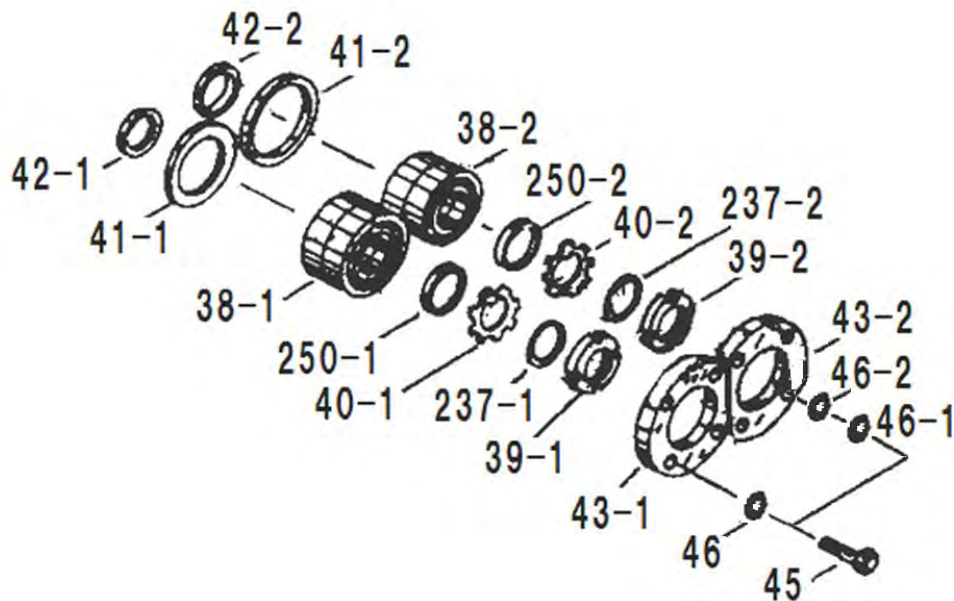

Figure 5-3 Thrust Bearings Section
- a) The procedure for assembling this portion is described in Figure 5-3.